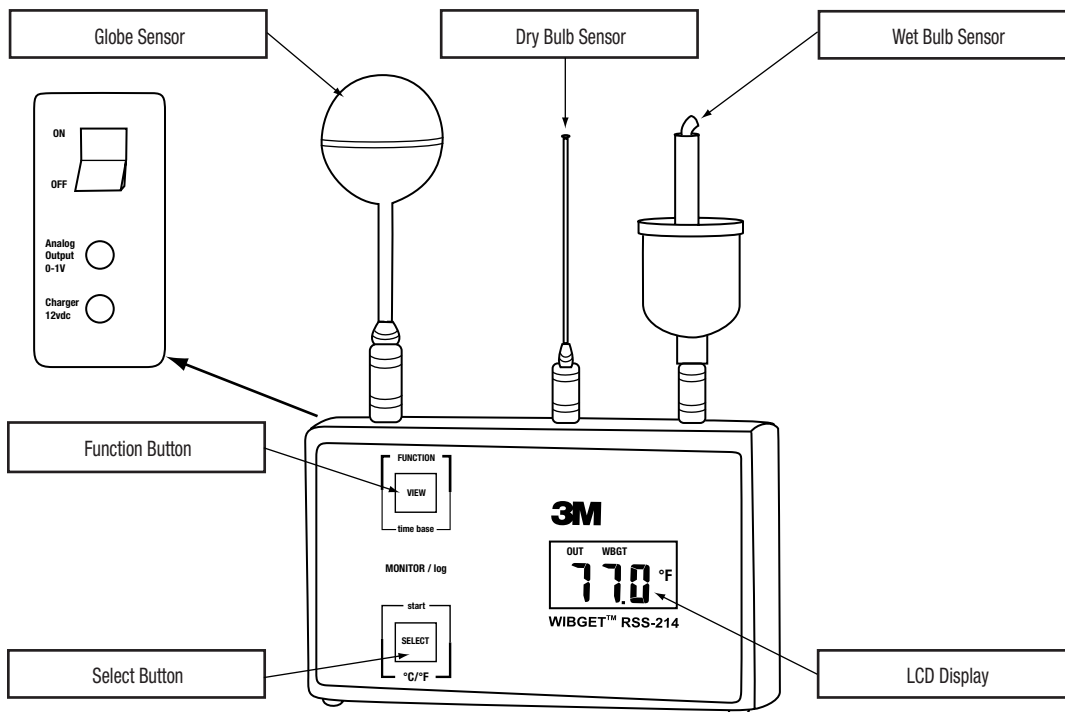

Fig. 1
The components of the WIBGET monitor are assembled in a plastic housing 3.75 H x 6.2 W x 1.75 D in. (Fig. 1). Located on the front face of the unit are the display (LCD) and the FUNCTION and SELECT buttons. On the left side of the unit are the On/Off switch, analog output, and charger jacks. On top of the unit are the sensor connector pins for the Globe (GT), Dry Bulb (DB), and Wet Bulb (WB) sensors. On the back of the unit is a label containing the intrinsic safety information and serial number.